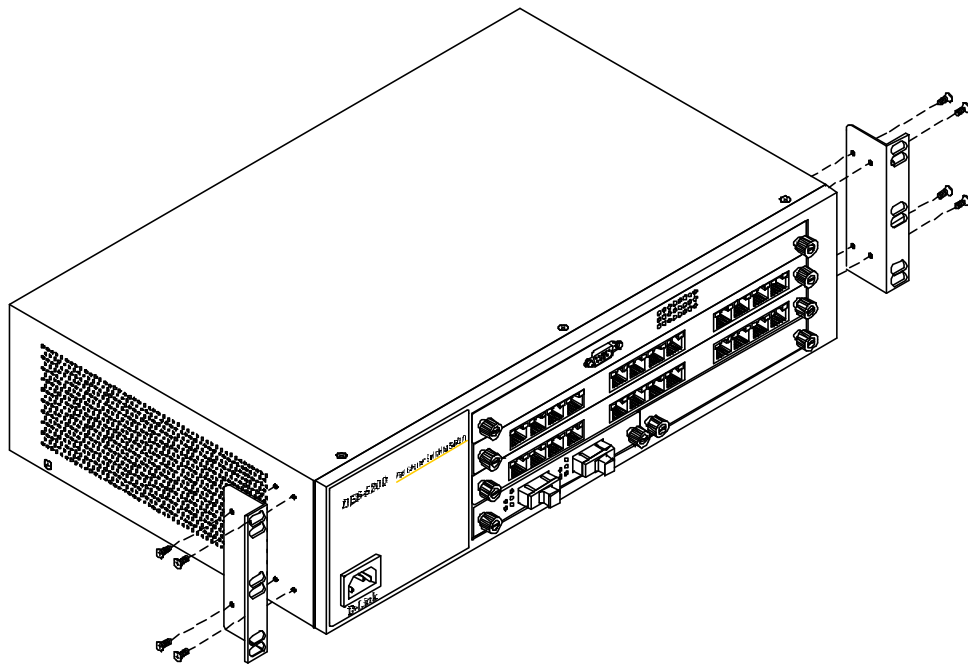

Figure 7: Attach Mounting Brackets
1. Attach a mounting bracket to each side of the DES-5200 with the screws provided. See Figure 7.